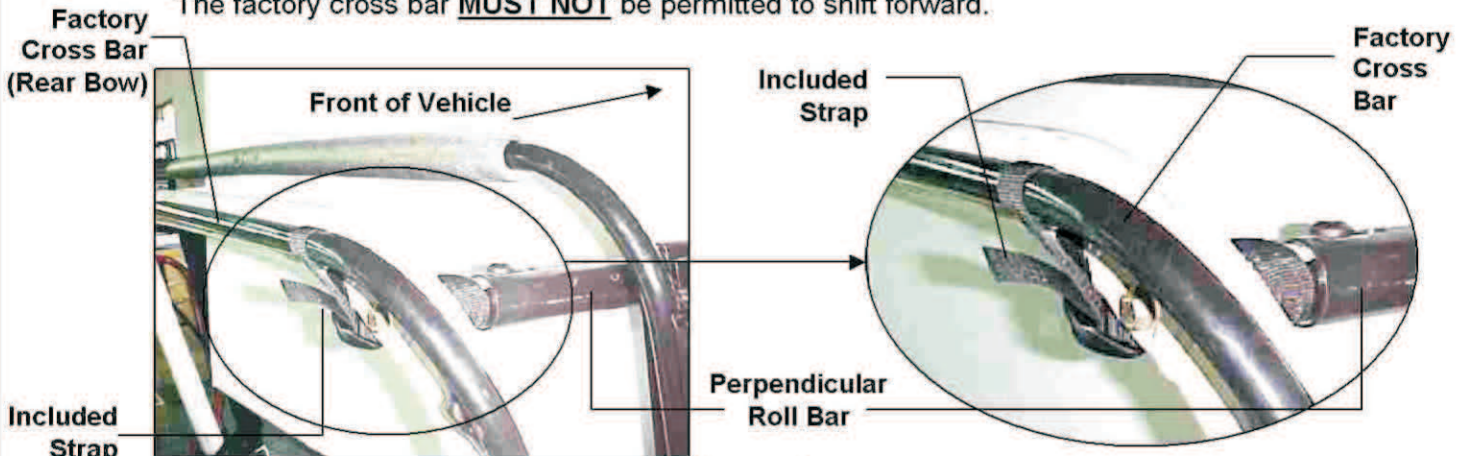

Figure 4
2. **87-91 Wrangler ONLY:** Secure the factory cross bar(Rear Bow) to the perpendicular roll bar, using the included strap as shown in Figure 4.
NOTE: Securely fasten the Strap to the factory cross bar and perpendicular roll bar (Figure 4). The factory cross bar **MUST NOT** be permitted to shift forward.